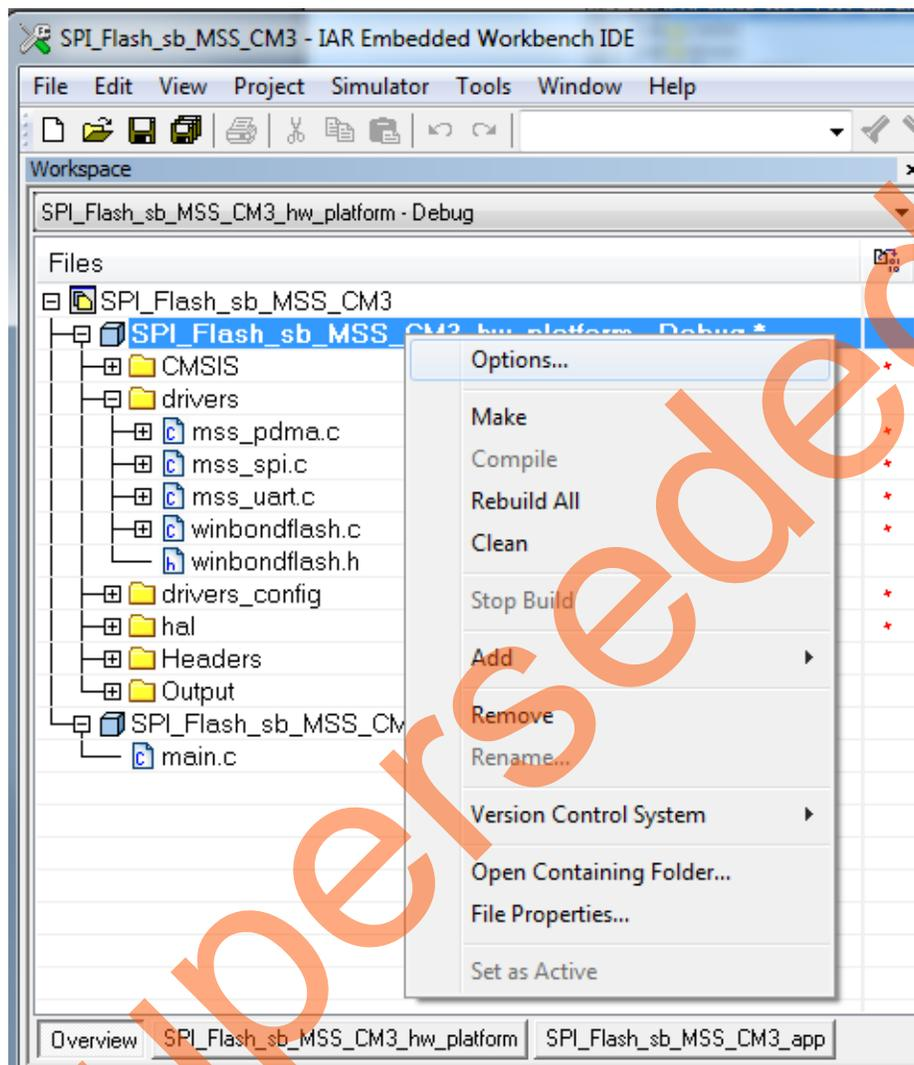

Figure 25 • IAR Workspace Window - Choose Options
- To configure the project, right-click the project name (SPI_Flash_sb_MSS_CM3_hw_platform) and click **Options**, as shown in Figure 25.